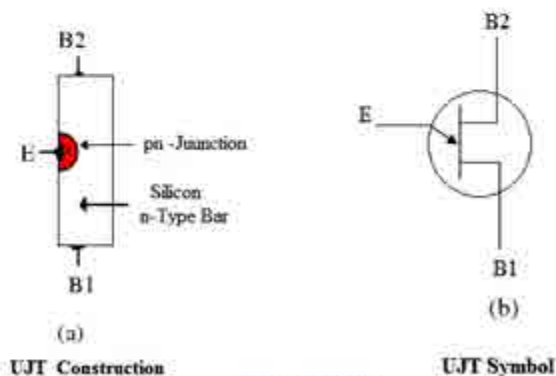

Fig 6.14 UJT
Fig.6.14.a shows the basic structure of a unijunction transistor. It consists of a lightly-doped N-type silicon bar with a small piece of heavily doped P-type material alloyed to its one side to produce single P-N junction. The UJT has three terminals: an emitter (E) and two bases (B1 and B2). The two base leads are taken from the N-type silicon bar. The emitter is of P-type and it is heavily doped. The emitter (E) junction is usually located closer to base-2 (B2) than base-1 (B1). Fig. 6.14b shows the symbol of UJT.